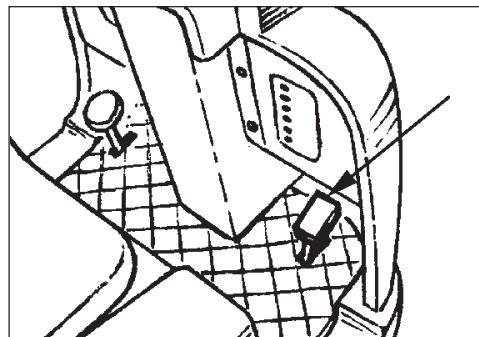

Figure 37
7. Gently press on the accelerator pedal (see figure 37). The machine should begin to move.